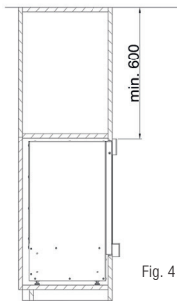

Fig. 4
- No objects must be located between the fireplace and the room ceiling (distance to ceiling >600 mm)! (see Fig. 4)